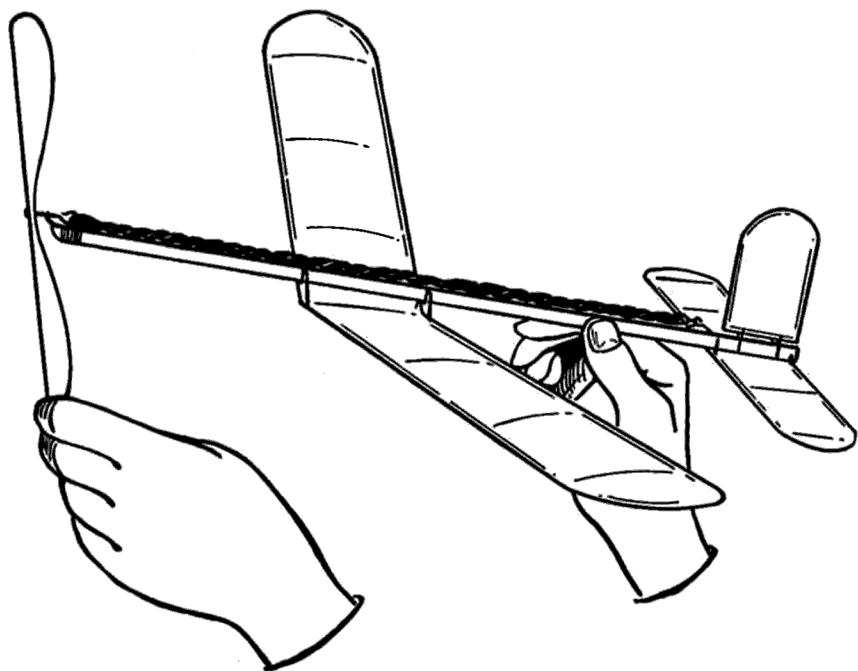

FIGURE 95. CORRECT LAUNCHING OF SINGLE STICK TRACTOR
**CORRECT LAUNCHING OF SINGLE-STICK TRACTOR.** When launching a single-stick tractor, the left hand holds the tip of one of the propeller blades, while the right hand holds the stick between the main wing and the elevator with finger and thumb. This is shown in Fig. 95. The model is given a slight forward push with the right hand, while the left releases the propeller. Such models may be launched with their nose slightly tilted up, or the entire motor stick can be held parallel with the ground.